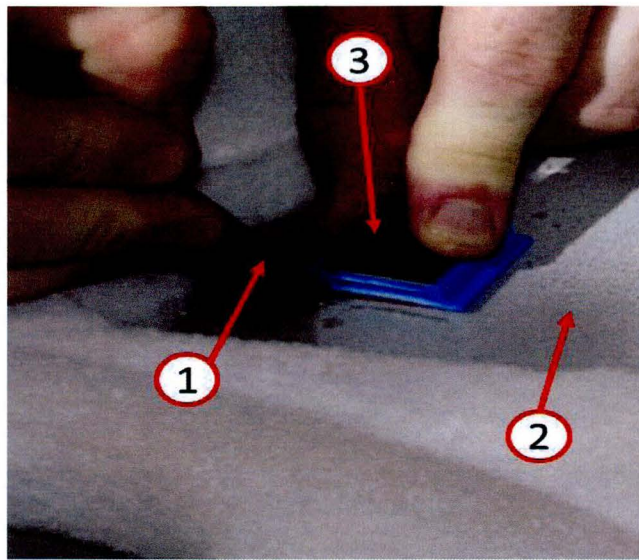

Fig. 6 Door Panel Preparation
6. Temporarily engage the dual lock halves in order to transfer the clip location from the module to the door panel using Kent Leak Trace Powder or equivalent and scribe the clip location on the back side of the door panel as shown in (Fig. 6).